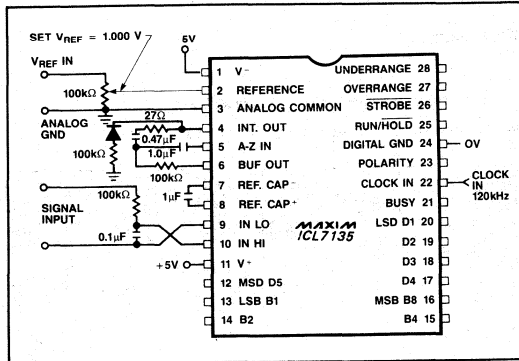

Figure 1. ICL7135 Test Circuit
**Note 1:** Tested in 4½ digit (20,000 count) circuit shown in Fig. 1, clock frequency 120kHz.